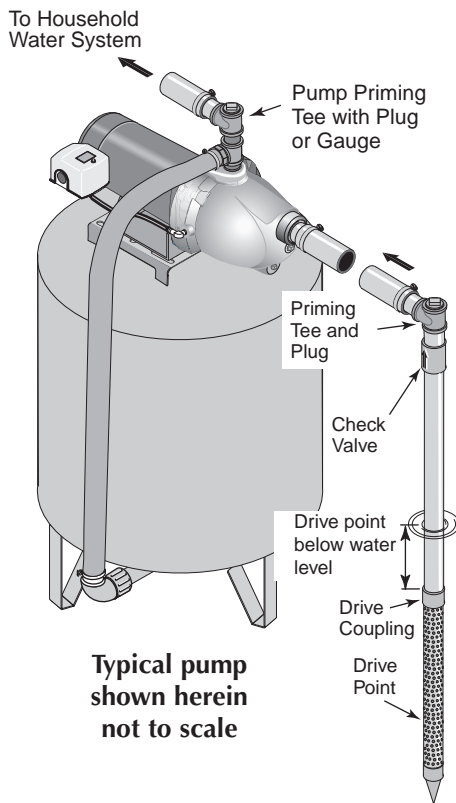

Figure 1: Driven Point Installation
Well Point (Driven Point) Installation (Figure 1)
3. Use the fewest possible fittings (especially elbows) when connecting the pipe from the well point to the pump suction port. The suction pipe should be at least as large as the suction port on the pump (include a check valve if your pump is not equipped with one – see Figure 1). Support the pipe so that there are no dips or sags in the pipe, so it doesn't strain the pump body, and so that it slopes slightly upward from the well to the pump (high spots can cause air pockets which can air lock the pump). Seal the pipe joints with Teflon™ tape or a Teflon™ based pipe joint compound. Joints must be air- and water-tight. If the suction pipe can suck air, the pump cannot pull water from the well. If one well point does not supply enough water, consider connecting two or three well points to one suction pipe.